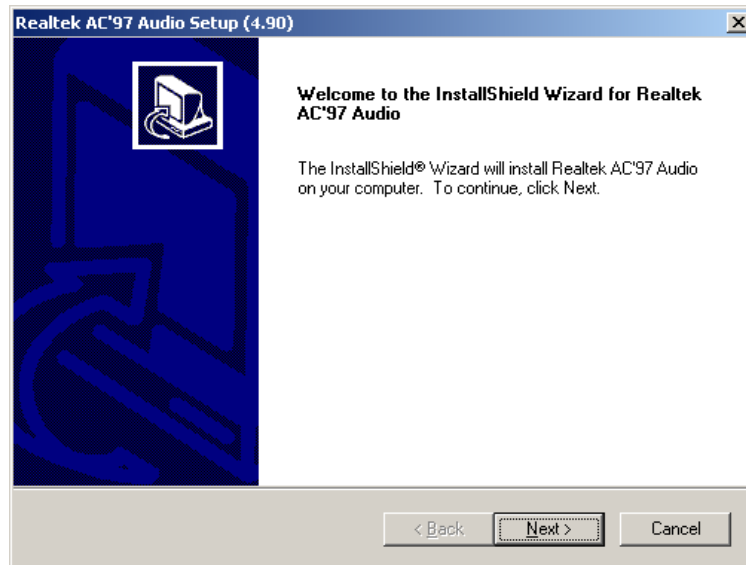

Figure 7-28: InstallShield Wizard Welcome Screen
Step 6: Once initialized, the **InstallShield Wizard** welcome screen appears (**Figure 7-28**).